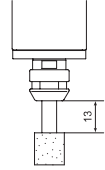

Fig. 20
- ① The proper surface speed for general grindstones is 10 - 30m / s.
- ② Do not exceed 13mm of overhang for mounted grindstones as shown in Fig. 20. If the overhang must exceed 13mm, reduce the motor speed in accordance with Table 3.
- ③ Dress the grindstone prior to use.
- ④ Do not use cutting tools with bent or broken shanks, cracks or excessive run-out.
- ⑤ For grinding, the maximum depth of cut should not exceed 0.01mm radially or axially. Reciprocate the tool several times after each pass to eliminate tool pressure.
- ⑥ Always operate cutting tools within the allowable recommended speed of the cutting tools. Use of a cutting tool outside of the allowable speed of the cutting tools could cause damage to the spindle and injury to the operator.
- ⑦ Keep the cutting tool shank and collet chuck clean. If contaminants are left in the collet chuck or chuck nut, excessive run-out will cause damage to the cutting tool and or spindle.
- ⑧ Do not strike or disassemble the spindle.
- ⑨ Please set the cutting tools to minimize the overhang amount. 13mm is the maximum amount of overhang to maintain high accuracy and safety.